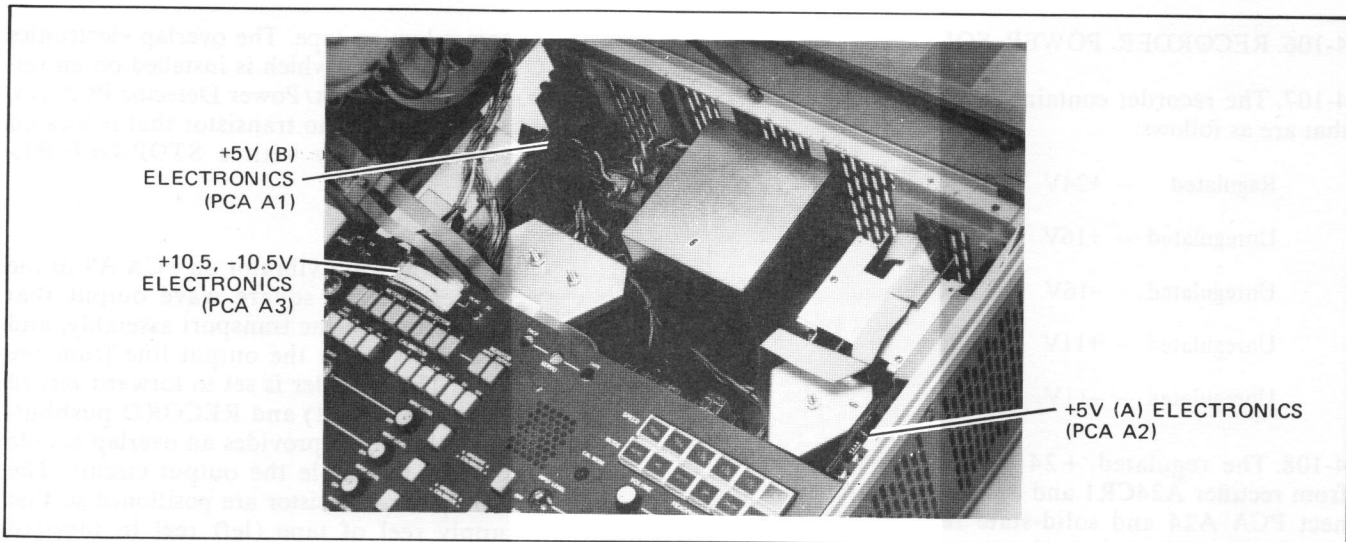

Figure 4-15. Regulated Power Supply Identification
4-110. The regulated +10.5 Vdc and -10.5 Vdc are developed in Meter Amplifier/10.5V Regulator PCA A3 (see Figure 4-15). Both supplies contain conventional voltage regulating circuits with current limiters. The +5 Vdc (A) power source is developed on +5V Regulator PCA A1 that is also identified in Figure 4-15. The supply contains a voltage regulator, current limiter and over-voltage protection. This +5 Vdc supply is used to operate circuits in data modules A11 through A14. The +5 Vdc (B) power source is developed on Regulator PCA A2, which is identified in Figure 4-15. This supply is identical to the +5V (A) circuit, and is used to operate TTL circuits in PCA A3, PCA A4, PCA A5, PCA A6, PCA A7, and PCA A8.